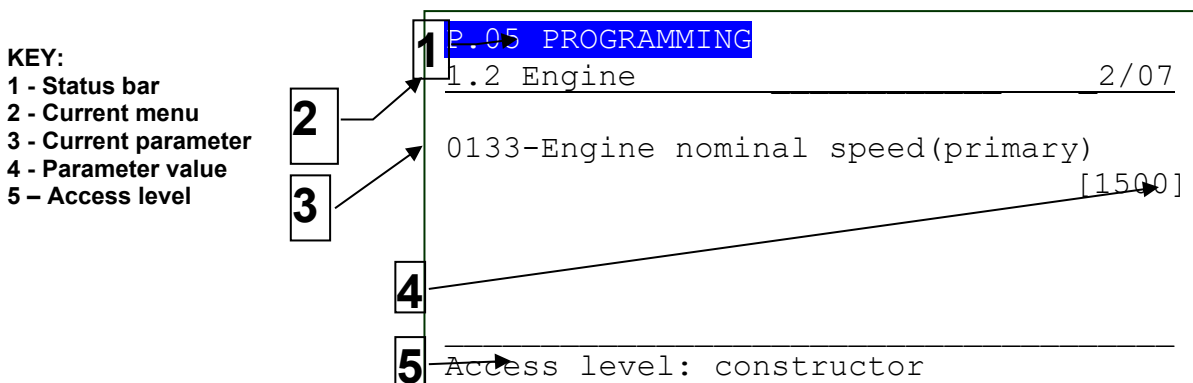

Fig. 6 - Display areas
The first line under the top status bar identifies the current menu (2) with the menu number and the relevant text. A pair of numbers is displayed on the right of this line (2/ 07 in the example in fig. 6). The first indicates which entry of the menu is selected or which page is displayed, the second indicates how many entries or pages can be displayed in the present menu/submenu.